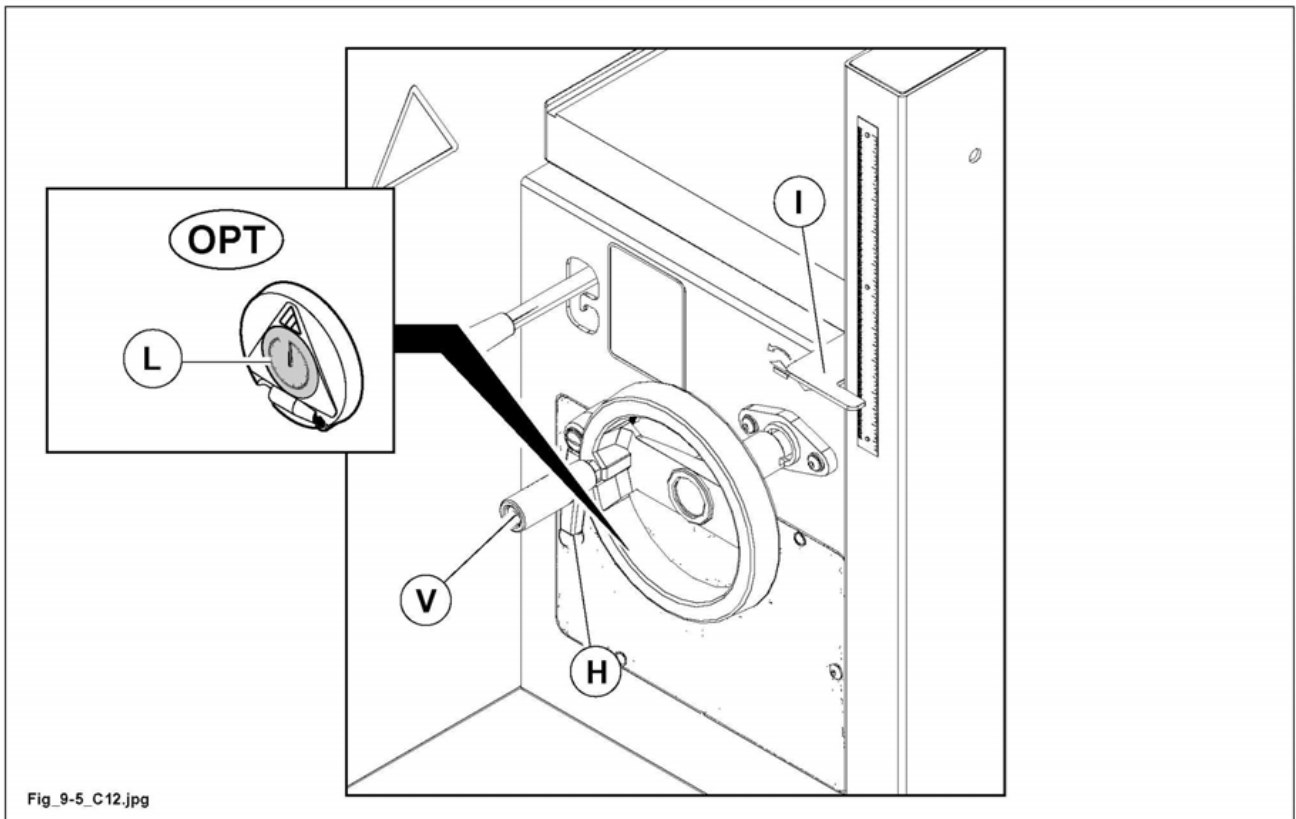

Fig. 9.5
To switch on the feed turn lever (L fig. 9.5). Carry out this operation with the machine running.
- loosen the knob (H fig. 9.5);
- rotate handwheel (V fig. 9.5) referring to index (I fig. 9.5) or numeric indicator (L fig. 9.5) **OPT**;
- tighten the knob (H fig. 9.5).